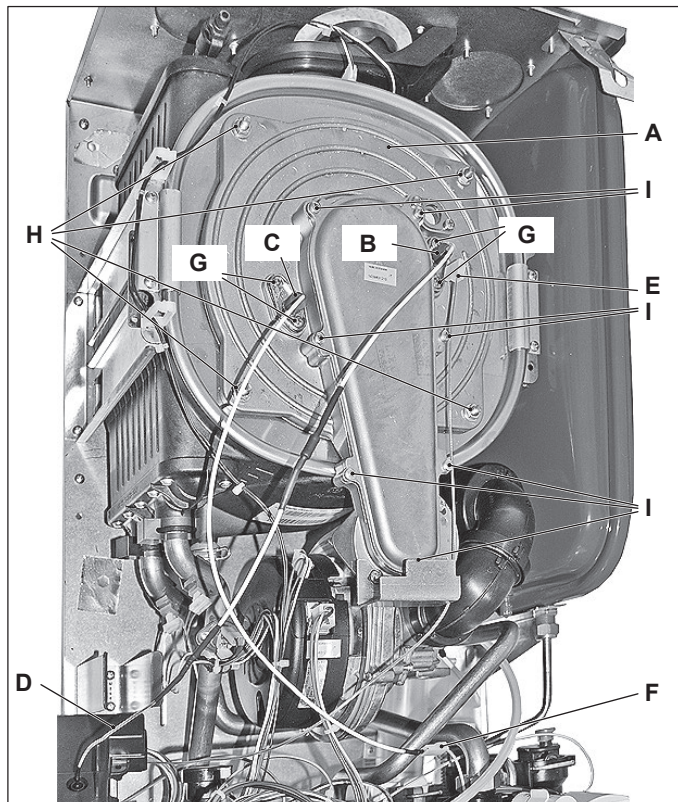

Figure 18.1
earth wire "E" (Figure 18.1) and disconnect the detection electrode connector "F".
- 3 Unscrew the screws "H" (Figure 18.1) and remove the cover of the combustion chamber.
- 4 Unscrew the screws "I" (Figure 18.1) and remove the Air-gas duct lid.